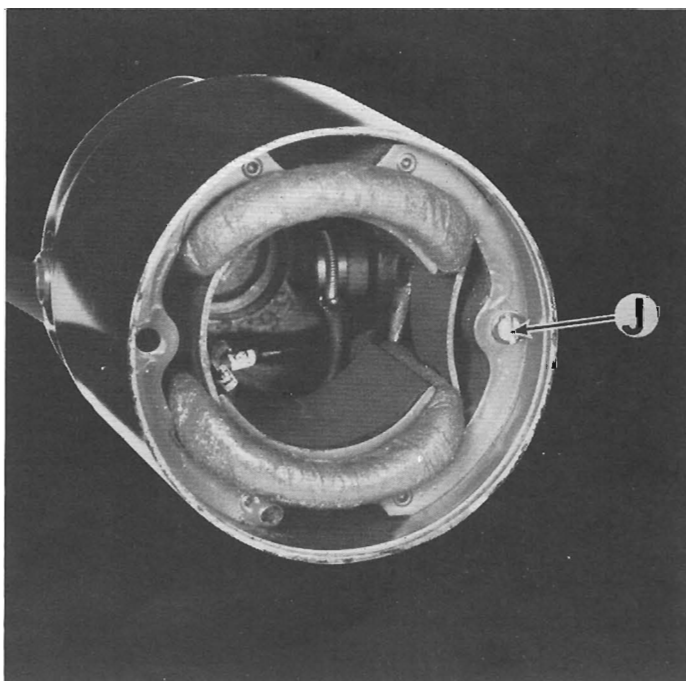

Figure 94 — Power Feed Motor
3. If necessary, remove screw "J", Figure 94, to remove motor cap.